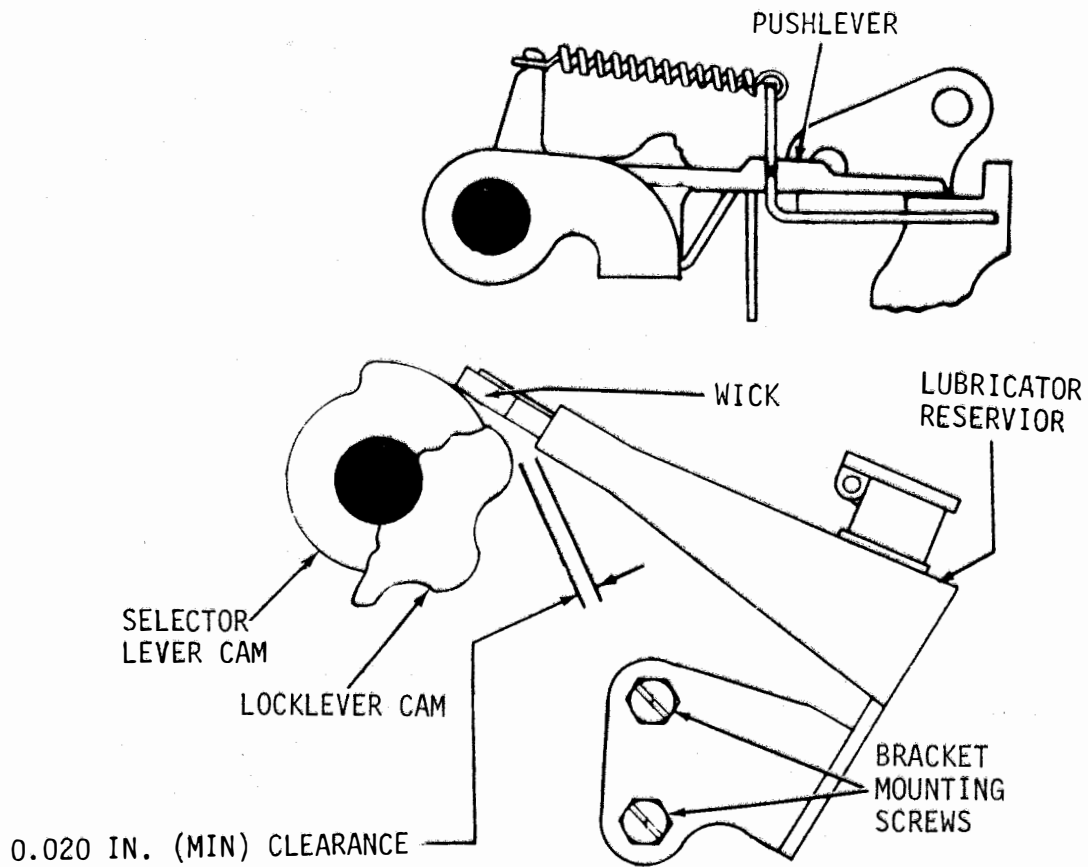

Figure 6-16. Selector Cam Lubricator, Right Side View
(19) Selector Cam Lubricator. Adjust as follows:
- (a) Refer to Figure 6-16.